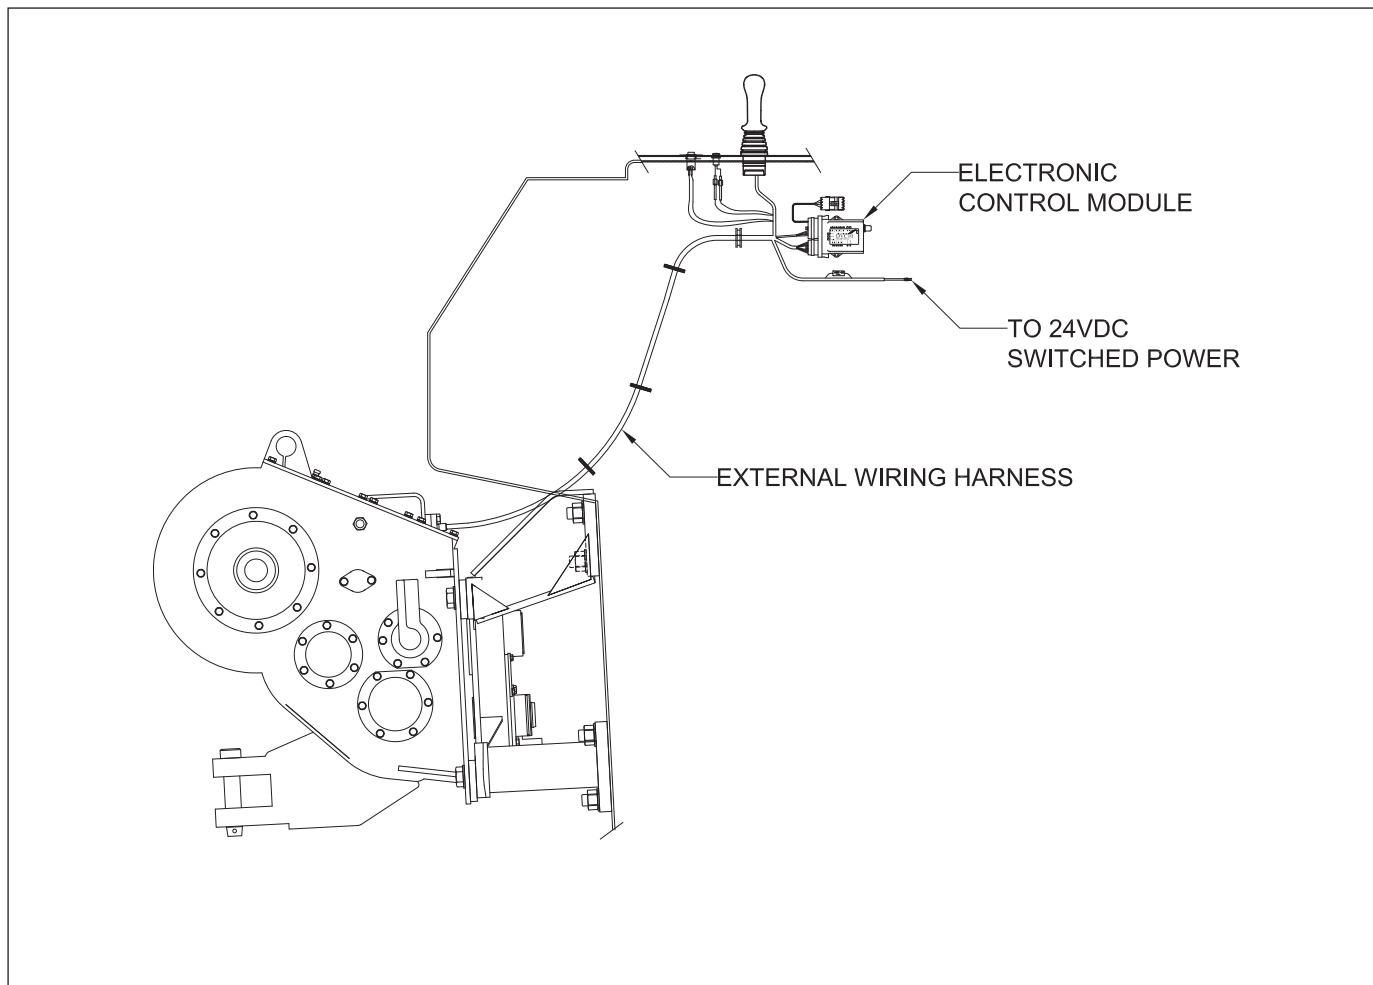

Figure 3-23 Electronic Control Module and Diagnostic Plug
2. Attach the communications cable to the diagnostic plug on the winch external wiring harness and to one of the computer's COM ports or to a USB to serial COM port adapter. See Figure 3-23.